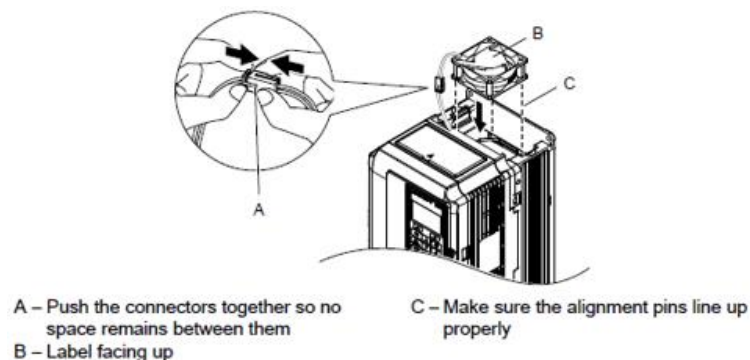

FIGURE 9-10 VFD Fan Reconnect
4. Install the replacement fans, make sure to properly align individual plug prior to connection per Figure 9-10.